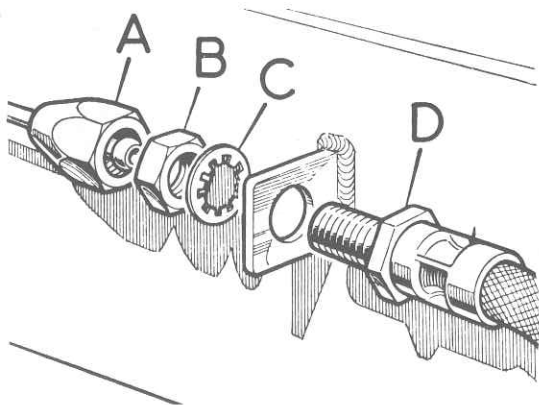

Fig. 9.17. Flexible brake hose connection
- 5 Disconnect the brake pipe from the rear side of the wheel cylinder. Note that the front brakes are fitted with a flexible pipe and this must first be disconnected from the pipe union on the side of the chassis member (see Fig. 9.17).